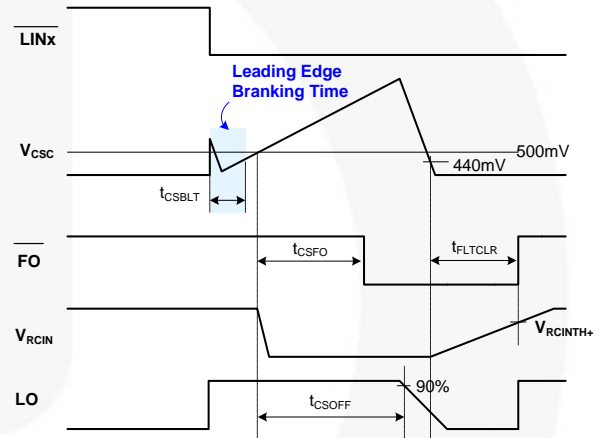

Figure 43. RCIN and Fault-Clear Waveform Definition
Figure 43 shows the waveform definitions of RCIN, FO, and the low-side driver; which uses a soft turn-off method when an under-voltage condition of the low-side gate driver supply voltage (V_{DD}) or the current-sense pin (CS) recognizes a fault. If a fault condition occurs, the FO Pin is internally pulled to COM and all outputs (HO1,2,3 and LO1,2,3) of the gate driver are turned off. Low-side outputs decline linearly by the internal sink current source ($I_{SOFT}=40 \text{ mA}$) for soft turn-off, as shown in Figure 43.